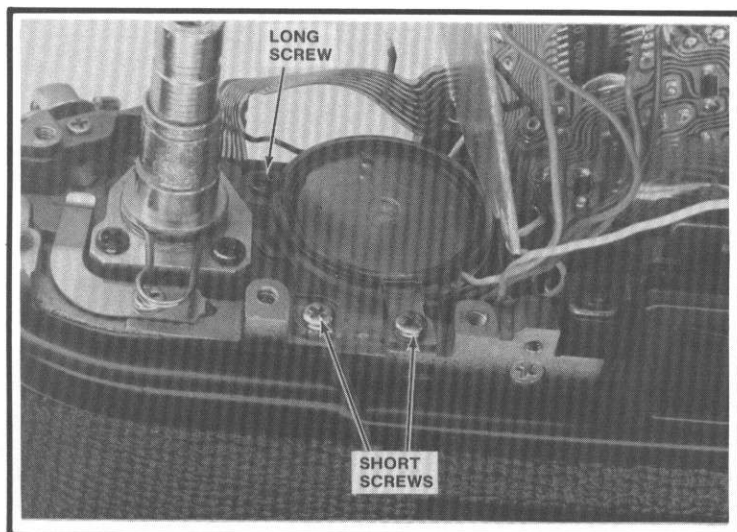

Figure 39
9. Lift up the film-speed base plate to reach the piezo beeper, Fig. 39.